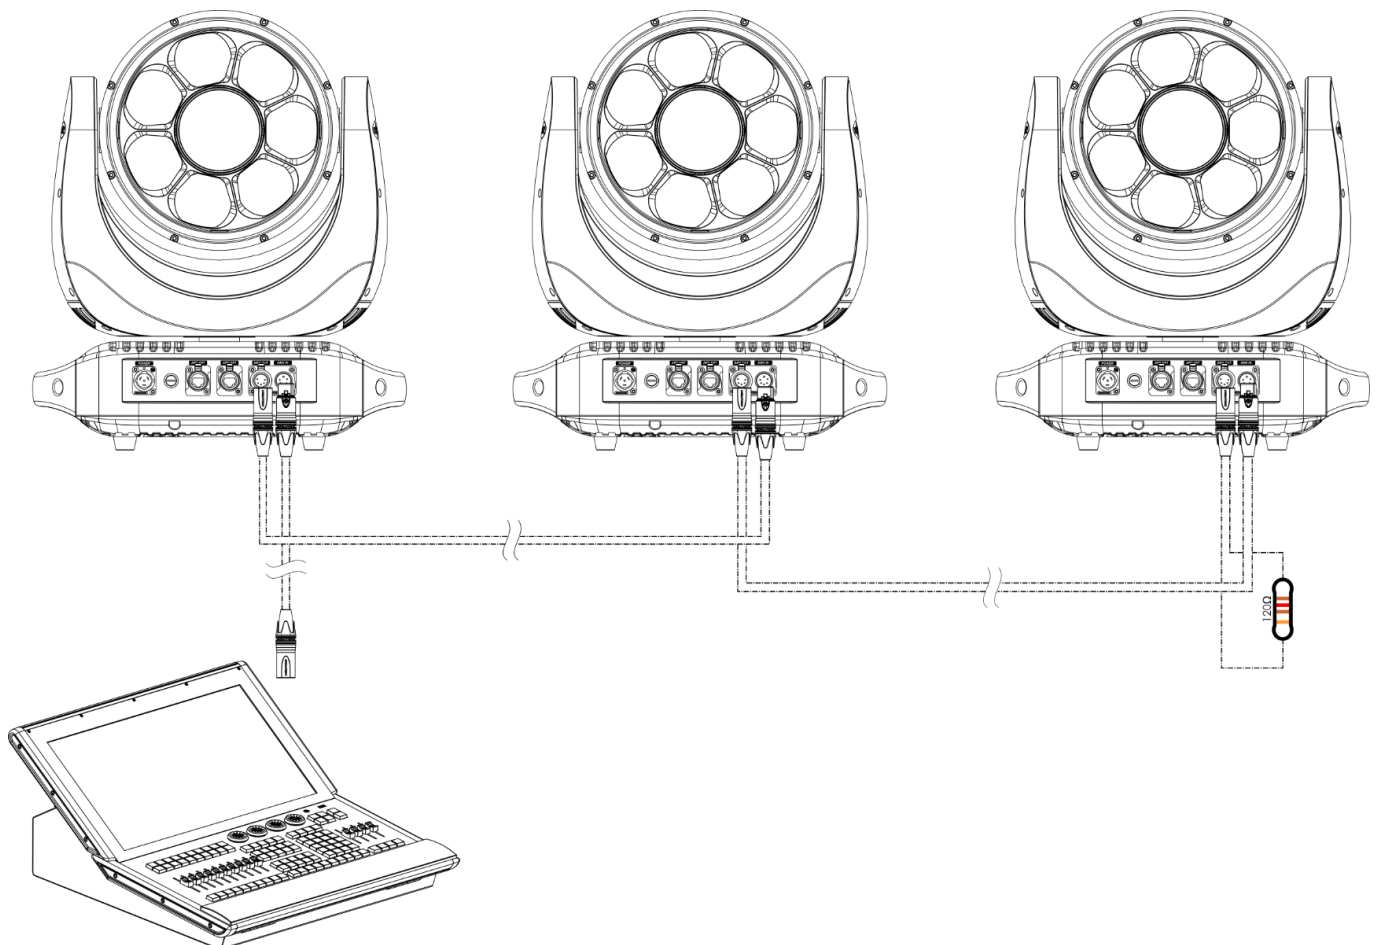

Fig. 08
- 04) Link the units as shown in Fig. 08. Connect a light controller to the first unit's DMX "in" socket, using a DMX cable. Connect the first unit's "out" socket with the second unit's "in" socket, using a DMX cable. Repeat this process to link the rest of the units.